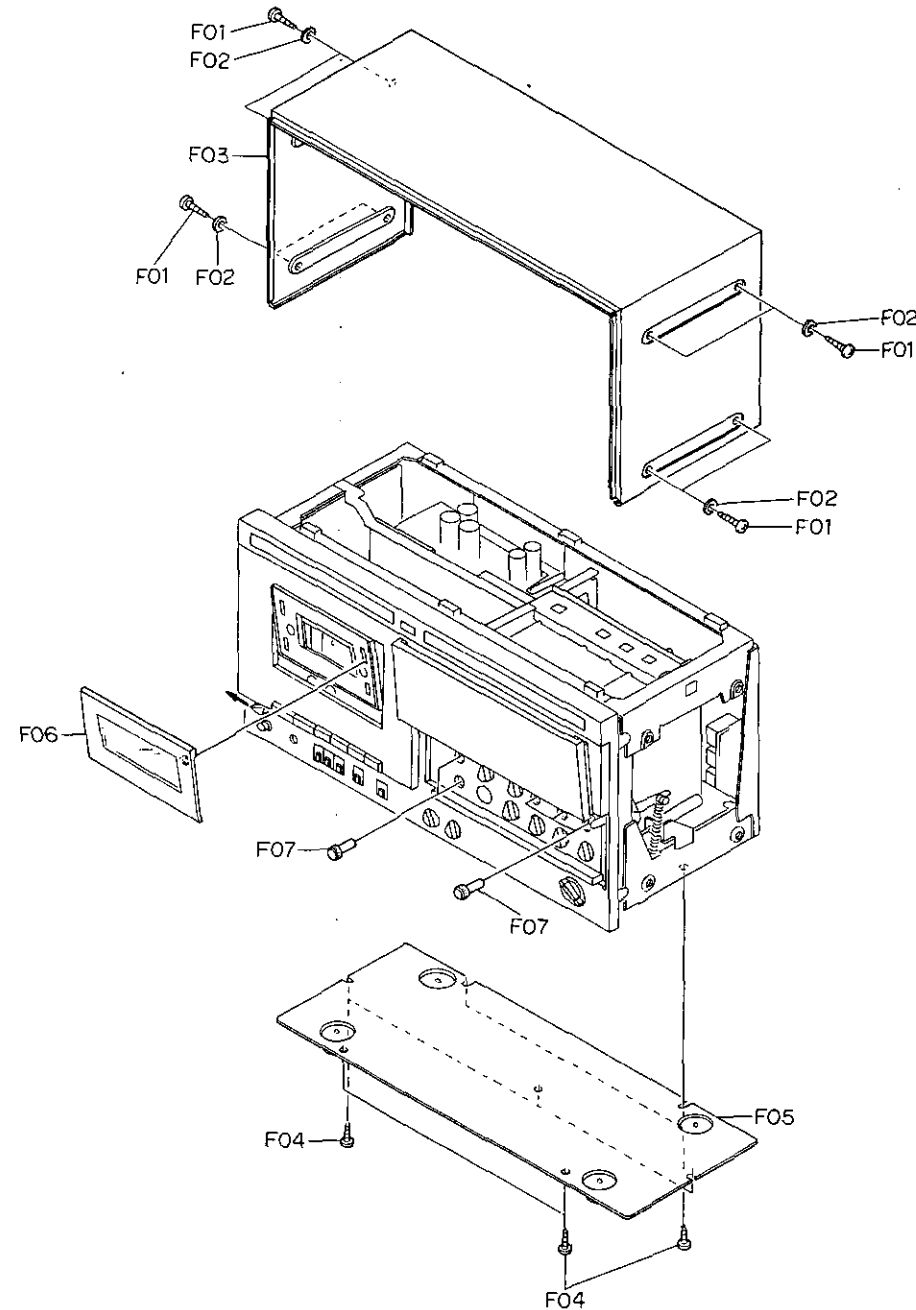

Fig. 2.1
Refer to Fig. 2.1.
- (1) Refer to Fig. 2.1. Remove Top Cover Ass'y, Bottom Cover Ass'y and Volume Knobs referring to items 2.1, 2.2 and 2.4.
- (2) Open Adjustment Lid.
- (3) Remove F01, then disassemble the top of F02 (Damper Arm Ass'y) from Front Panel Ass'y.
- (4) Remove F03, then disassemble F04 (Front Panel Ass'y including 4 connectors).
- (1) Refer to Fig. 2.1. Remove Top Cover Ass'y and Bottom Cover Ass'y referring to items 2.1. and 2.2.
- (2) Disconnect 4 connectors from F13 (Auto Cal. P.C.B. Ass'y).
- (3) Remove F07 and F08, then loosen F09.
- (4) Turn over F10 (Rear Panel Ass'y) as the arrow head.
- (5) Remove F11 and F12, then disassemble F13 (Auto Cal. P.C.B. Ass'y).
- (1) Refer to Fig. 2.1. Remove Top Cover Ass'y referring to item 2.1.
- (2) Remove F01 and F02 (P.C.B. Holder A Ass'y), then disassemble F03 (Bias Oscillator P.C.B. Ass'y) and F04 (Playback Amp. & Dolby NR P.C.B. Ass'y).
- (2) Remove F08, then disassemble F09 (Logic P.C.B. Ass'y).
- (1) Refer to Fig. 2.1. Remove Top Cover Ass'y and Bottom Cover Ass'y referring to items 2.1 and 2.2.
- (2) Remove F01, F02 and F03, then disassemble Rear Panel Ass'y.
- (3) Remove F04, F05 and F06, then disassemble F07 (Power Supply Ass'y).
- (4) Remove F08, then disassemble F09 (Insulator).
- (5) Remove F10, F11 and F12, then disassemble F13 (Heat Sink) and F14 (Power Supply P.C.B. Ass'y).
- (6) Remove F15, then disassemble F16 (Fuse P.C.B. Ass'y).
- (7) Remove F17, then disassemble F18 (Power Transformer Ass'y).
- (8) Remove F19 and F20, then disassemble F21 (Power Transformer) and Transformer Holder.